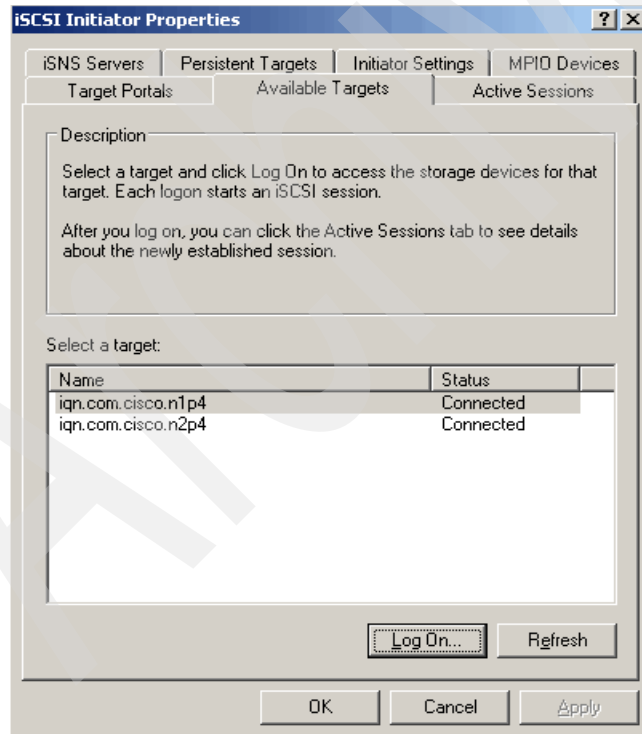

Figure 7-69 Microsoft iSCSI Initiator Available Targets panel
5. Repeat the same process for each target. The final result is shown in Figure 7-69.